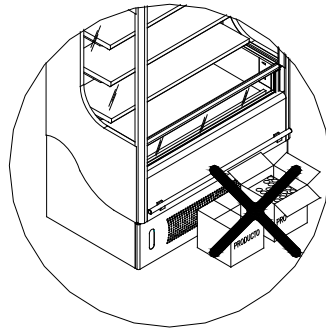

FIGURE 5
- Do not block the lower ventilation grille with the packages about to be loaded. (Fig. 5)